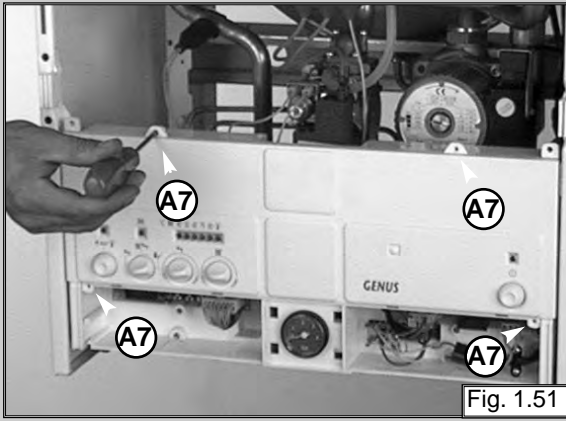

Fig. 1.51
5. Remove the mounting screws "A7" (see fig. 1.51);